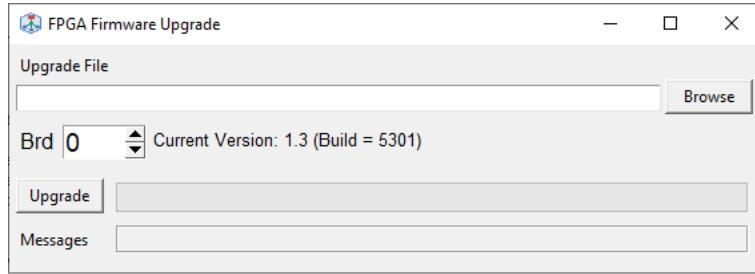

Fig. 3.5: FPGA firmware upgrade window.
- **Upgrade FPGA:** The command opens a window (see **Fig. 3.5**) that allows the user to browse the firmware file to upgrade the FPGA and to visualize the progress of the upgrade. Compliant firmware has .ffu extension.